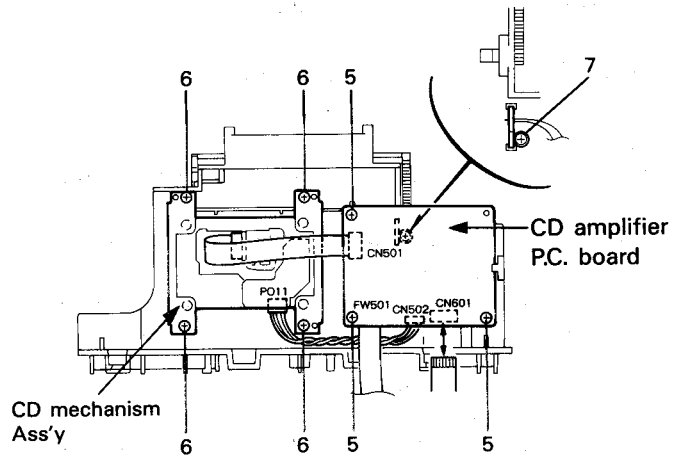

Fig. 7-5
■ CD Amplifier P.C. Board (refer to Fig. 7-5)
1. Remove the three screws (5) retaining the CD amplifier P.C. board from the CD player chassis.
4. Remove the screw (7) retaining the CD door close switch P.C. board.
■ CD Mechanism Assembly (refer to Fig. 7-5)